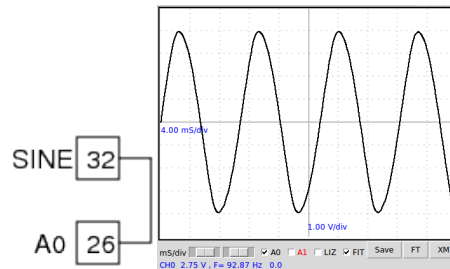

FIGURE 2.5 – AC voltage waveform from SINE
- The waveform is shown in the figure2.5. Enable the 'FIT' option to calculate the amplitude and frequency by fitting the data with the equation  $V = V_0 \sin(2\pi ft + \theta)$ , where  $V_0$  is the amplitude and  $f$  is the frequency.